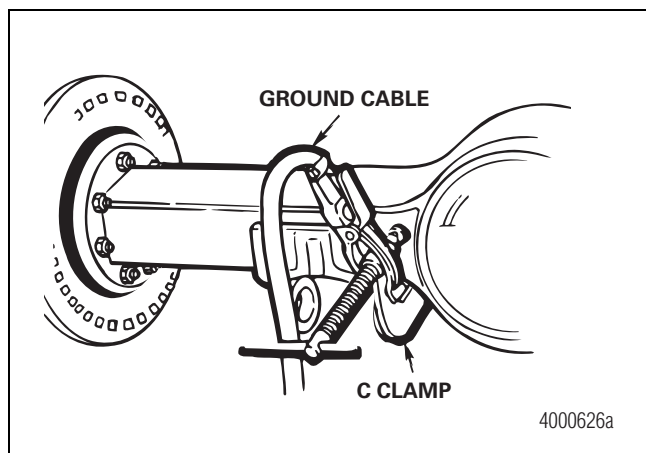

Figure 3.4
2. Attach the ground cable as near as possible to the cracked weld area and only to components welded on the axle, such as a housing spring pad. Do not attach the ground cable at a suspension spring, U-bolt or at a point that places a wheel bearing between the ground connection and the weld area. Figure 3.4.